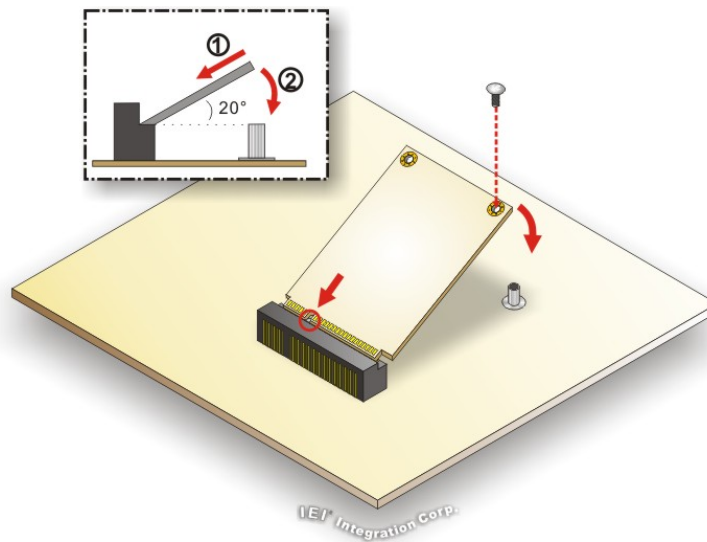

Figure 3-4: mSATA Module Installation
- Step 4:** Secure the mSATA module with the retention screw. Push the other end of the mSATA module down and secure the module with the previously removed retention screw (**Figure 3-4**).